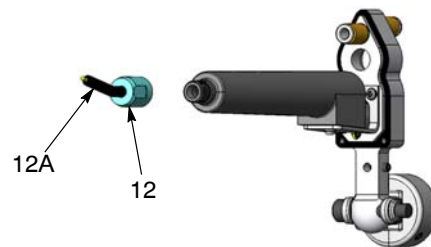

Figure 32 Removing the Multiplier from the Housing
3. See Figure 32. Unscrew the multiplier nut (12). Remove the multiplier contact (12A) from the nut and replace it if it is damaged.
Bar-Mount Guns: See Figure 32. Install the contact in the multiplier well and secure it with the multiplier nut.